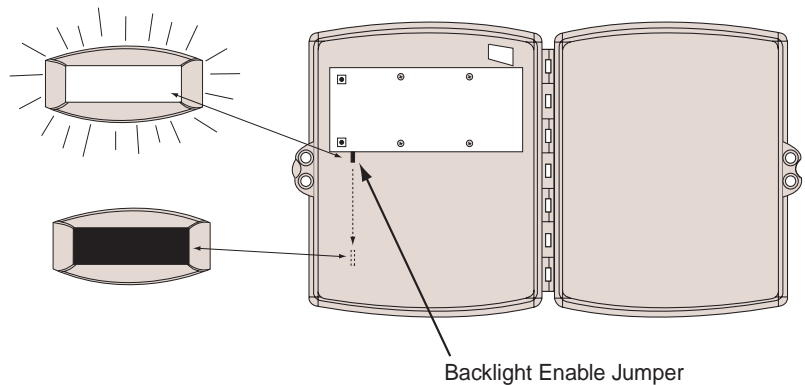

Figure 9: Enabling and disabling the LCD backlight
11. Set the Backlight Enable Jumper to the desired operating condition (refer to Figure 9). The unit is shipped with the jumper in the enable mode. Remove the jumper to disable the LCD backlight.